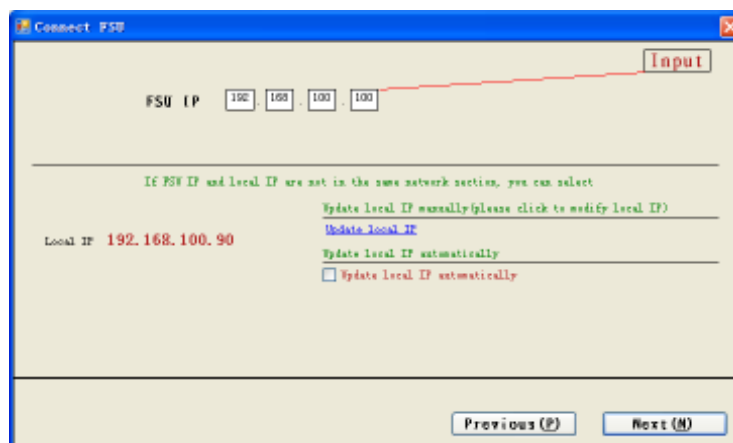

Figure 4-6 Input FSU IP address
4. Select 'Input FSU IP manually', click **Next (N)**, and the window shown in Figure 4-6 appears.